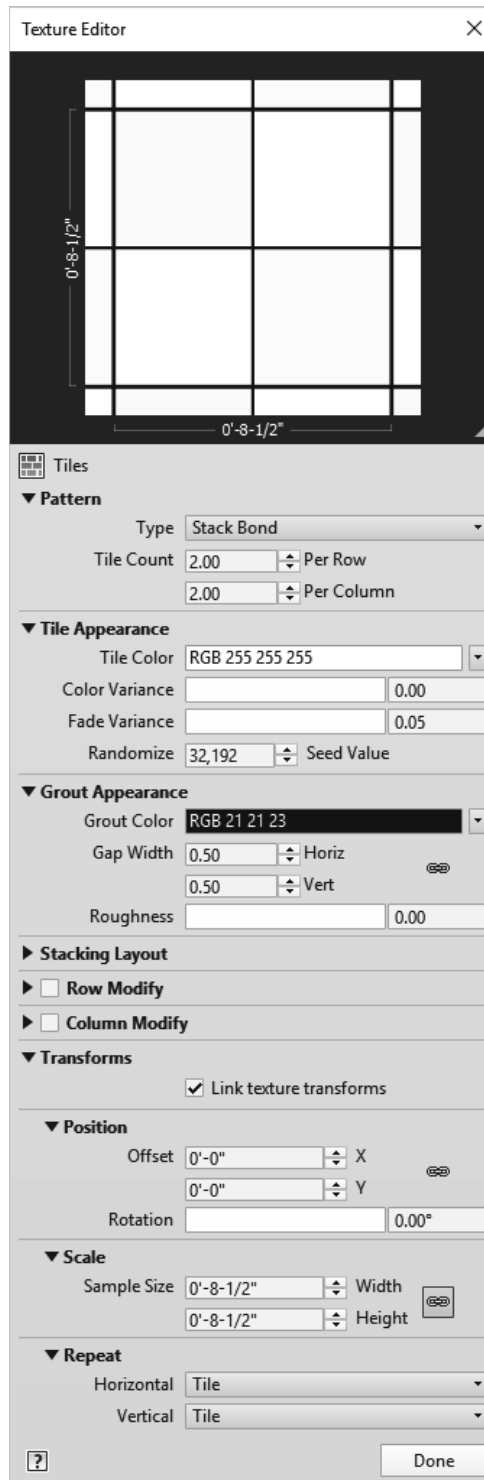

FIGURE 4-4.7 Texture Editor for relief pattern
25. Click on the tile image (or word 'Edit') to adjust the settings to match Figure 4-4.7.